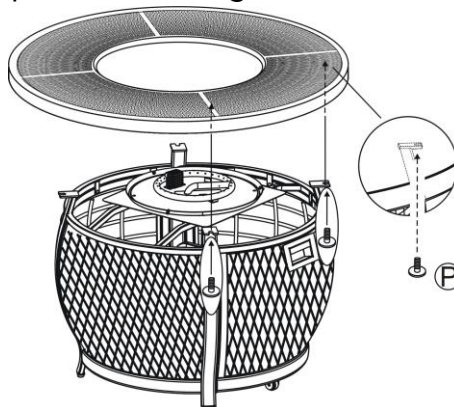

Figure 2
2. Place the fire pit table top onto the fire pit base. Secure the table top to the fire pit base by using the 1/4" x 20 mm screws that are provided. See Figure 2.